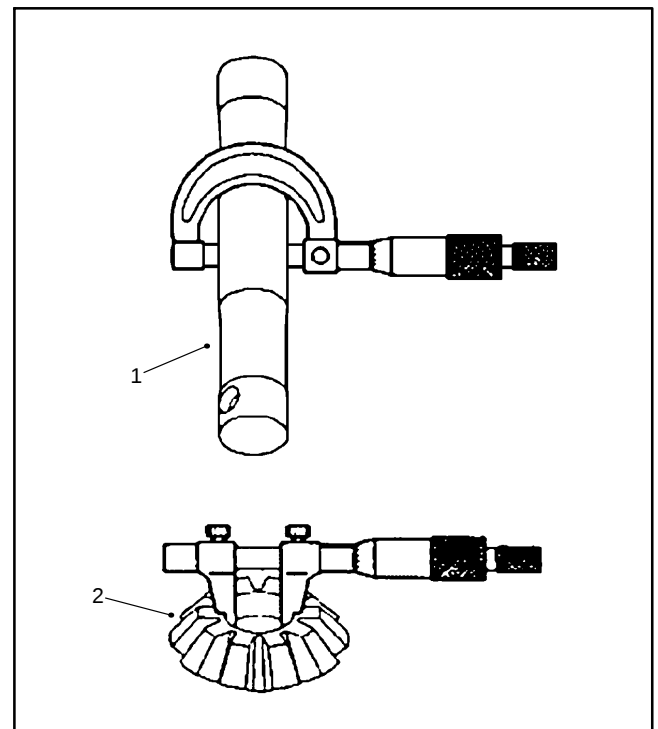

Figure 86
2. Measure the differential pinion shaft O.D. and the pinion gear I.D. to determine the pinion shaft to pinion gear clearance (Fig. 86). Replace components as necessary.